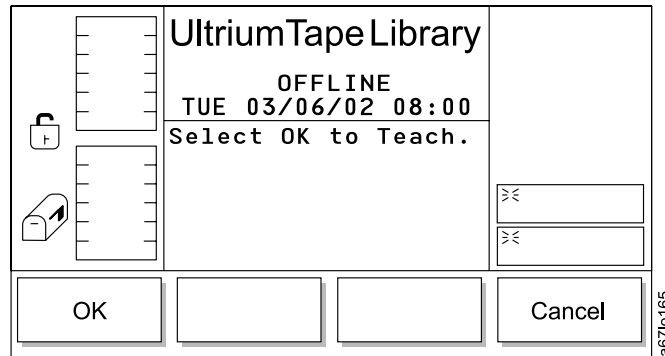

Figure 187. Teach Dialog
- If **Teach** is selected, the Teach Dialog displays (see Figure 187 on page 147).